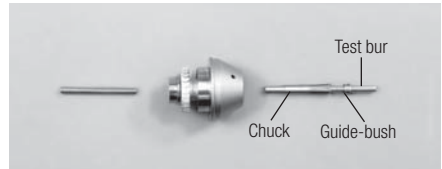

Fig. 19
- 3) When the rotor nut is loose, push out the chuck carefully with the dummy bur or the shank of the bur from the back of the cartridge, the Guide-bush and the chuck will come out (Fig.19).